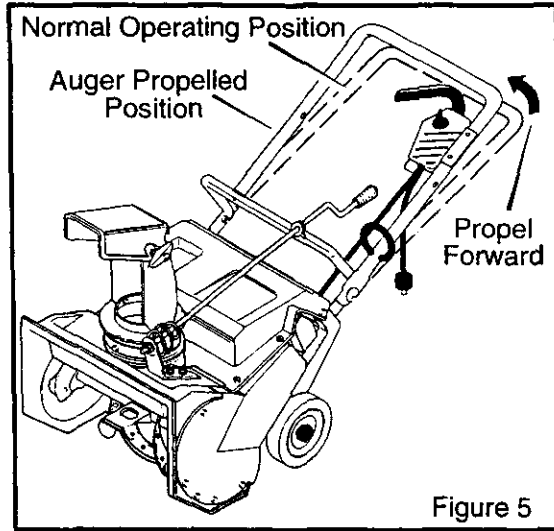

Figure 5
2. To propel forward, raise the handle to allow the auger blades to contact the ground (See Figure 5).